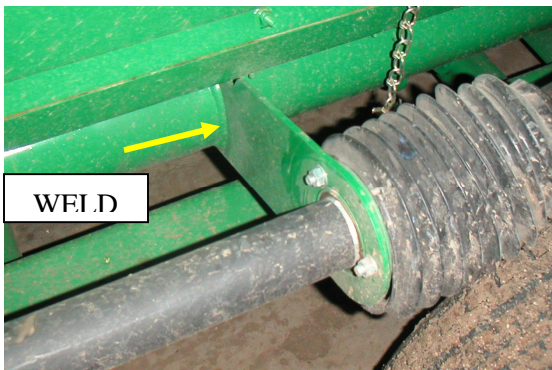

Figure 1
3. Assemble hanger bearing supports. Place Bearing (**LAN – 207KRRB12**) between two Flanges (**LAN – 105**) and attach to Support (**LAN – 104**) using three Bolts (**LAN – 18A**) and three Nuts (**LAN – 3718**). **Always bolt Hex Bearing (LAN-207KRRB12) to feeder house side of Hangar Bearing Support (LAN- 104) so bearing removal or replacement is possible if needed. (See Figure 1 & 1A)**
4. After proper alignment of jackshaft is secured, weld half moon end of support bracket to 5" main frame tube. (See **FIGURE 1 & 1A**)
4. Assemble hangar bearing supports. Place Bearing (**LAN – 207KRRB12**) between two Flanges (**LAN – 105**) and attach to Support (**LAN – 104**) using three Bolts (**LAN – 18A**) and three Nuts (**LAN – 3718**). **Always bolt Hex Bearing (LAN-207KRRB12) to feeder house side of Hangar Bearing Support (LAN- 104) so bearing removal or replacement is possible. (See Figure 1 & 1A)**